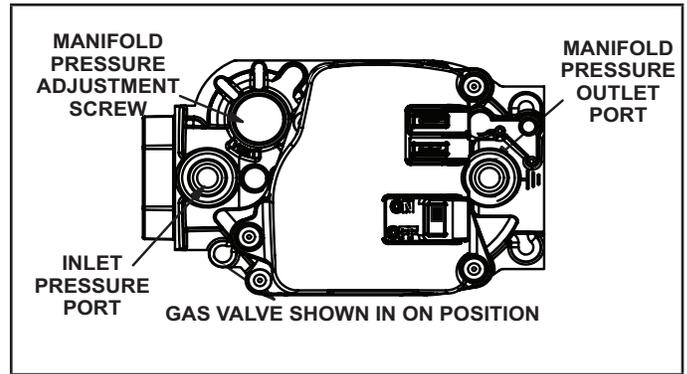

FIGURE 31
Gas Valve Operation (Figure 31)
- 6 - Move switch on gas valve to OFF. Do not force. See figure 31.
- 8 - Move switch on gas valve to ON. Do not force. See figure 31.